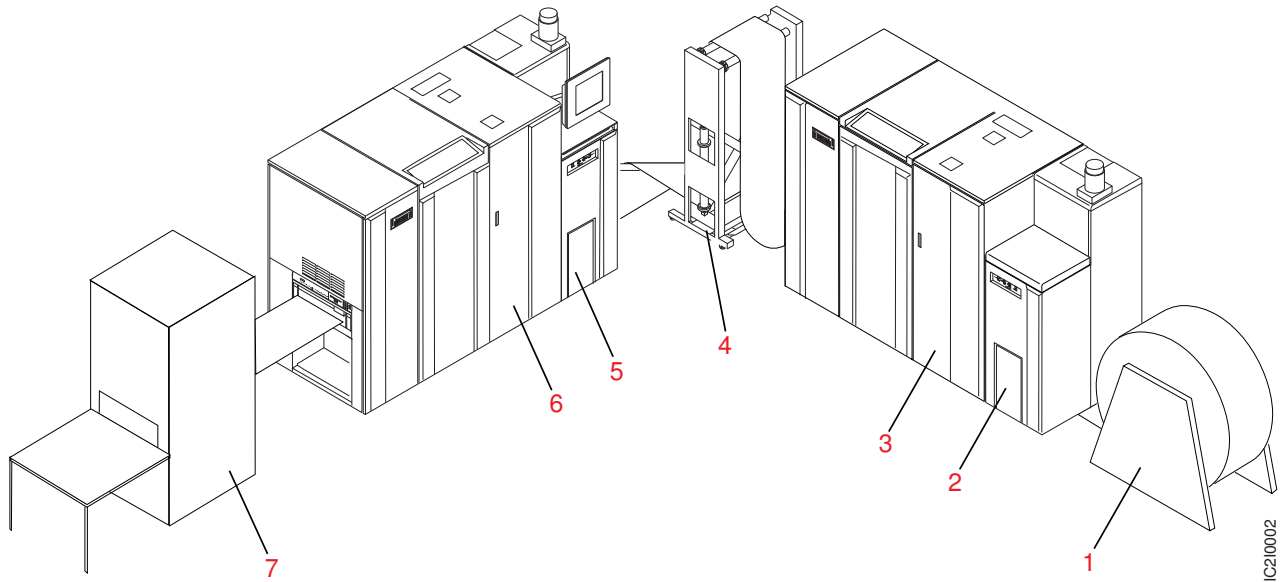

Figure 2. Duplex left angle configuration
- Left 90° path with 180° inversion (see Figure 2 on page 17)